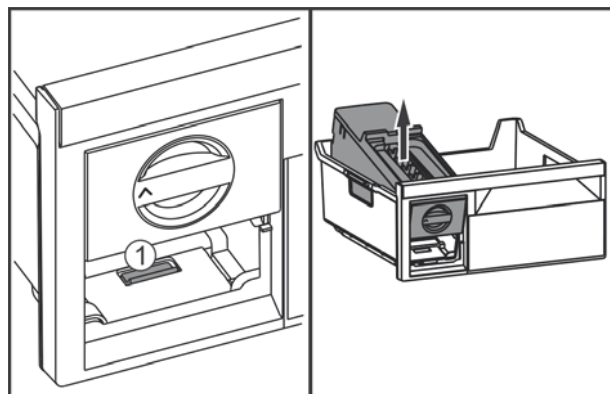

Fig. 38
- Press the lug Fig. 38 (1), lift up the EasyTwist-Ice at the back and take it out of the freezer drawer.